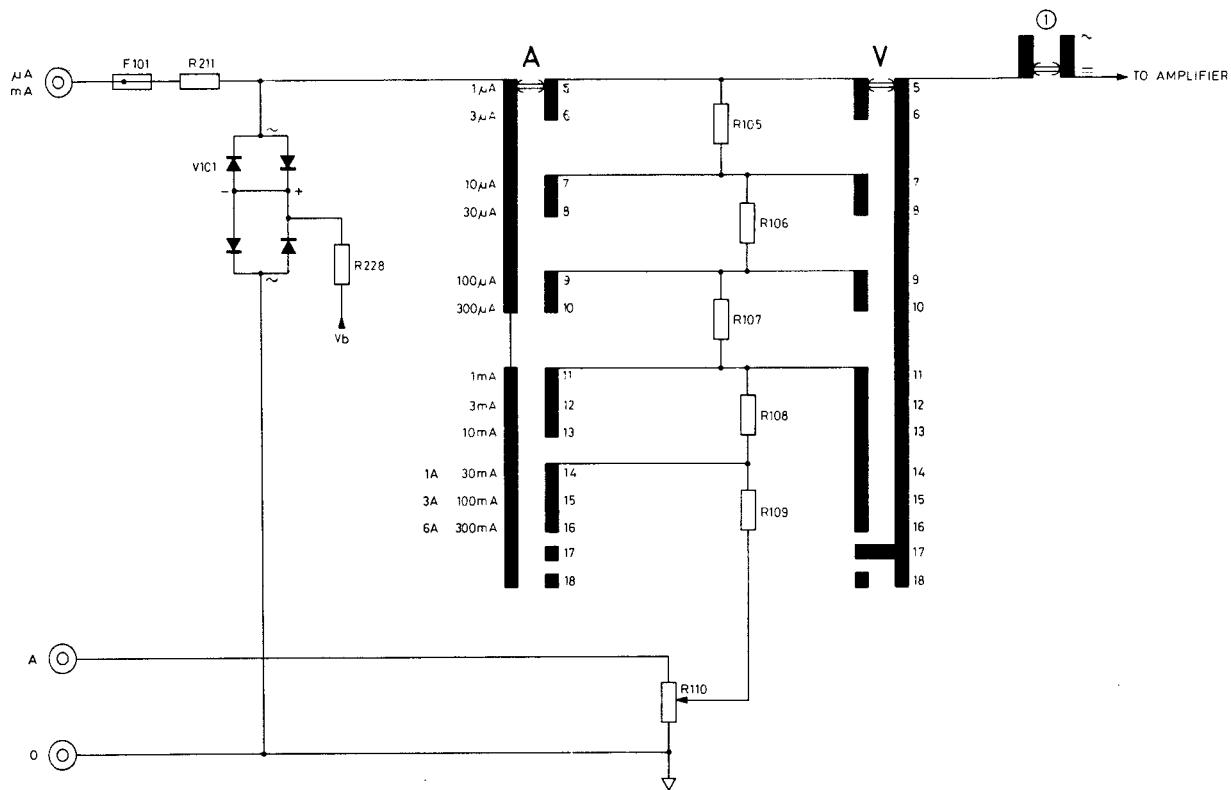

Fig. 10. $A==$, and $A\sim$ shunts
4.3.2. A === and A~ shunts (Fig. 10)